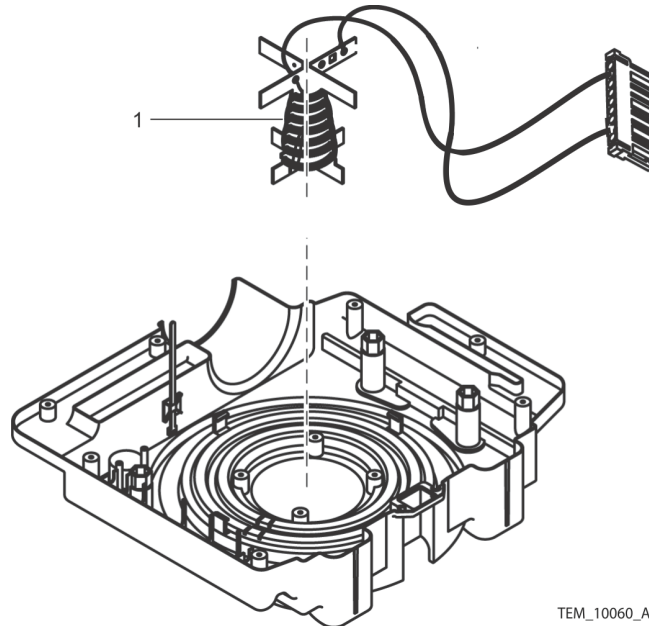

Figure 72. Heater Assembly
28. Lift the heater assembly (Figure 72, item 1) out of the rear cover assembly.